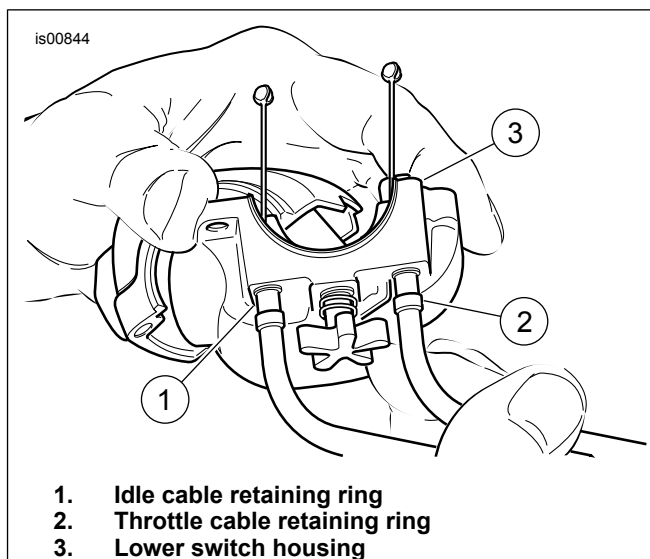

Figure 9. Install Cables to Lower Switch Housing
2. See Figure 9. Push throttle cable housing and retaining ring into switch housing larger hole, located in front of tension adjuster screw.